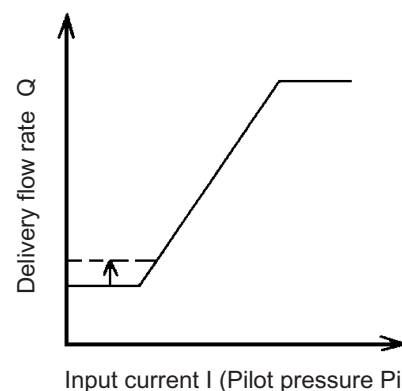

Fig. 24-18 Adjusting the min. delivery flow
Adjust the minimum flow by loosening nut (806) and by tightening socket screw (953) (or loosening it). Tightening socket screw increases the delivery rate, as indicated in Fig. 24-18.